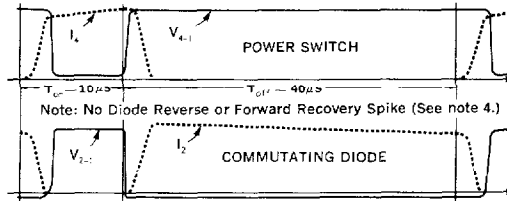

Figure 2. PIC600, PIC601, PIC602 Switching Waveforms
- No reverse recovery spike generated by commutating diode (See note 4 and Fig. 2.)
- In switching an inductive load, the current will lead the voltage on turn on and lag the voltage on turn-off (see Figure 2.). Therefore, Voltage Delay Time (t_{dv}) $\cong t_{di} + t_{ri}$ and Current Storage Time (t_{si}) $\cong t_{sv} + t_{fv}$.
- As can be seen from the switching waveforms shown in Figure 2., no reverse of forward recovery spike is generated by the commutating diode during switching! This reduces self-generated noise, since no current spike is fed through the switching regulator. It also improves efficiency and reliability, since the power switch only carries current during turn-on.